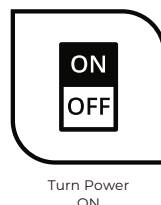

Fig. 7
8. Turn on breaker and light switch. When the sensor detects movement at night within the coverage area, the security light will automatically turn on. Establish the time settings and maximum sensing range with the details below. (See Fig. 7)